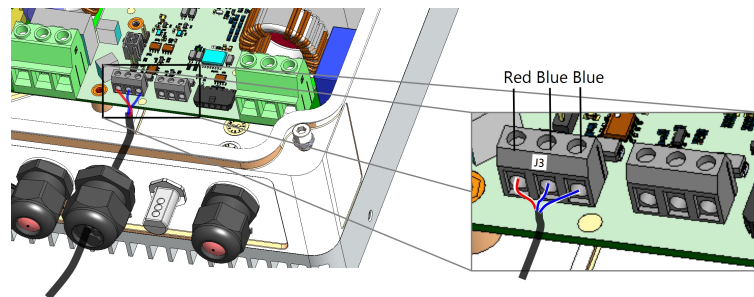

Figure 5: Connecting the sensor cable to the Smart Energy Hot Water device
5. Connect the other end of the sensor cable to the Smart Energy Hot Water device (See Figure 5):
6. Verify that a jumper socket *is assembled* on J5 pin header. This will allow usage of the PT100 sensor connected to J3 connector. Make sure to use the correct pin header matching the connector (Figure 5):